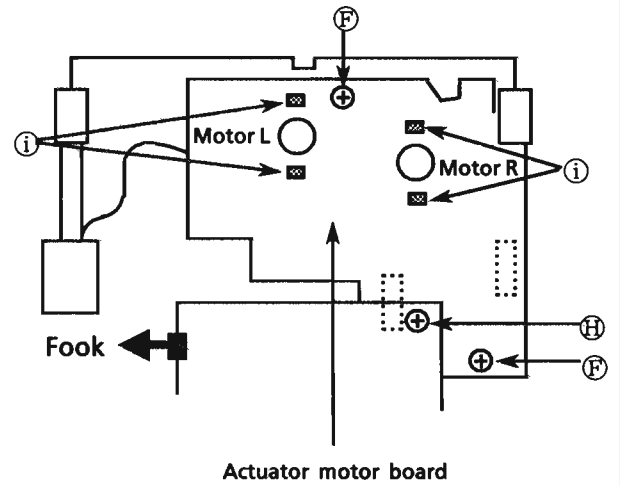

Fig. 32
1. Unsolder 4 soldered point ① for both motors. (See Fig. 32.)
2. Remove a screw ④ securing the CD servo board. (See Fig. 32.)
4. Remove 2 screws ② securing the actuator motor board. (See Fig. 32.)